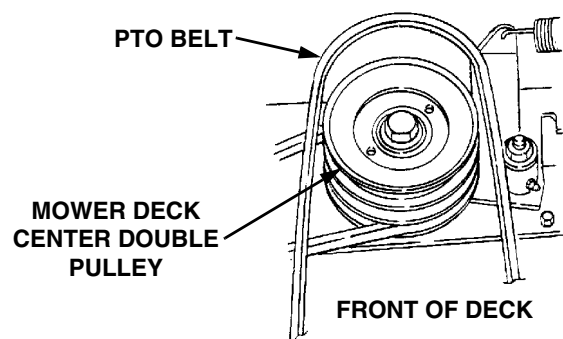

Figure 51
14. Install the rearward end of the PTO belt on the upper pulley of the deck center double-pulley (Refer to Figure 51). Ensure that the narrow side of the belt engages the groove of the upper pulley, and that there is no more than a 1/4 twist in the belt between the front pulleys and the double pulley.